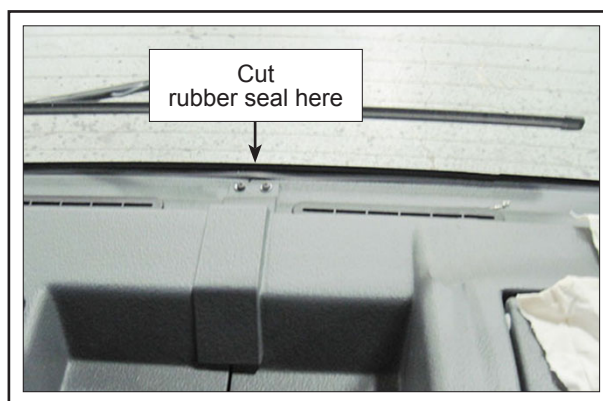

Figure 6 - Front of the Dash
2.3. Cut the rubber seal between the dash and the windshield glass. See Figure 6.